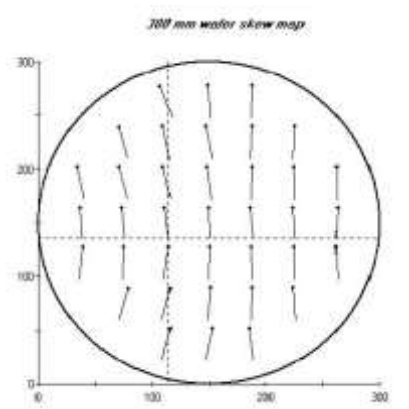

Figure 4. Automatic Skew Angle Mapping of Wafers.
**Angular Dispersion and Skew Mapping:** When performing an angular hysteresis loop measurement at a family of angles around the magnetic hard (easy) axis over the wafer surface and then extracting the angle at which a parameter, such as the anisotropy field is maximum, the resulting map is called a skew angle map (Figure 4). The easy (hard) axis dispersion measurement capability allows users to perform a fully automated mapping measurement of the angular dependence of any parameter, which gives critical process feedback.